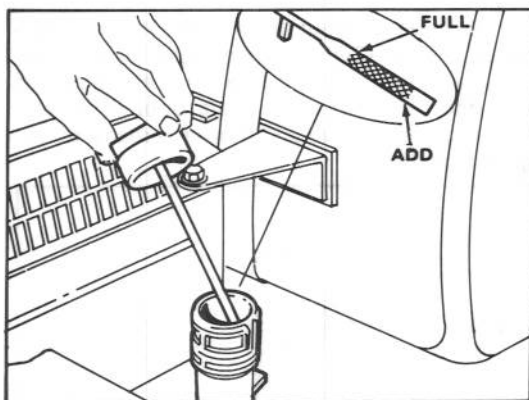

Figure 4
3. Wipe dipstick and insert it into filler neck. Rotate cap clockwise 1/4 turn. Then remove dipstick and check level of oil (Fig. 4). If level is low, add only enough to raise level to FULL mark on dipstick. DO NOT FILL ABOVE FULL MARK BECAUSE ENGINE COULD BE DAMAGED WHEN STARTED.